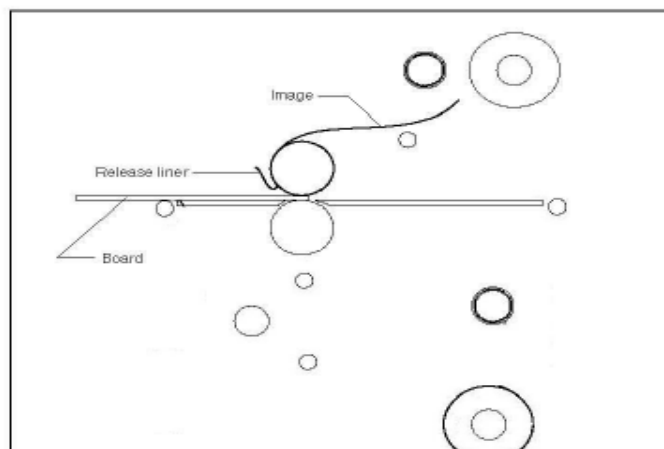

Fig. 35
TIPS FOR MOUNTING A DECAL (Figure 35)
1. Load the laminator as illustrated in Figure 35.